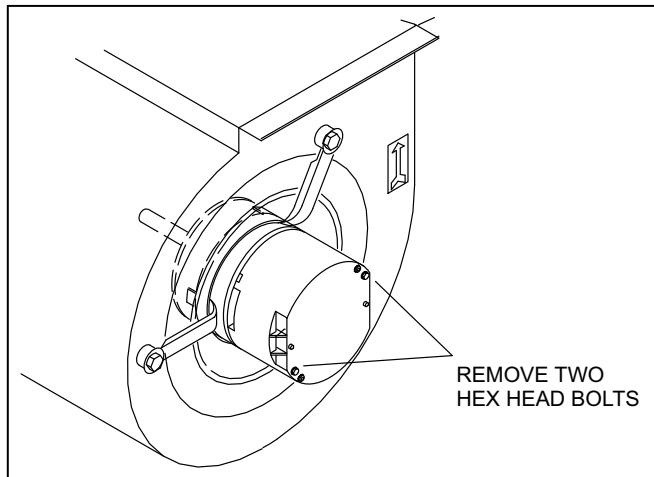

Figure 2. Fasteners
- 5 - Locate and loosen the two hex-head bolts on the flat end of the motor control module casting as illustrated in Figure 2. Hold the control module while you remove these two bolts.